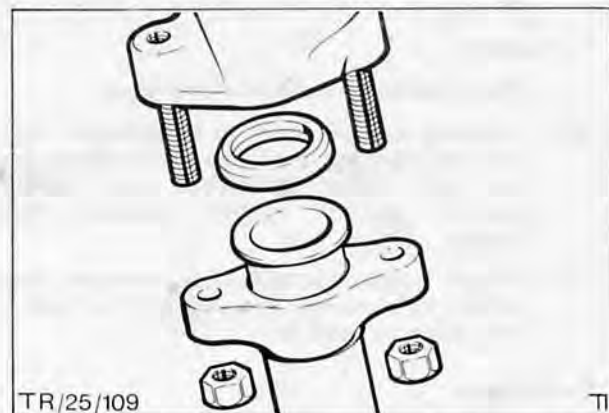

Fig. 27. Exhaust manifold front down pipe clamping with sealing ring
2. Disconnect front down pipe from exhaust manifold and allow clamp ring to slide down pipe to clear securing studs. Remove sealing ring, Fig. 27.